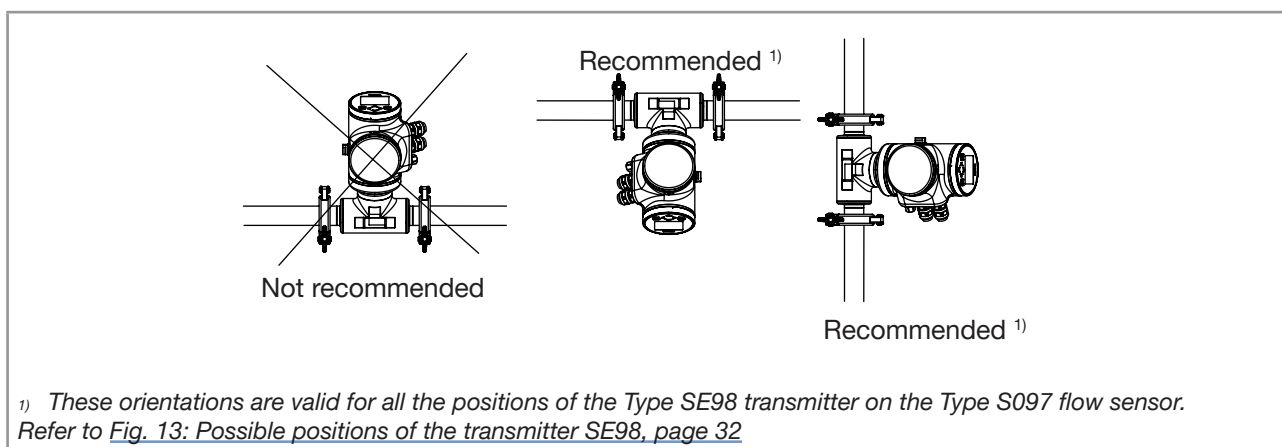

Fig. 17: Orientation of a device variant with cable glands to avoid effects of high liquid temperatures
- To make sure the internal temperature of the transmitter with cable glands does not exceed the authorized maximum value, install the device as recommended in Fig. 17.